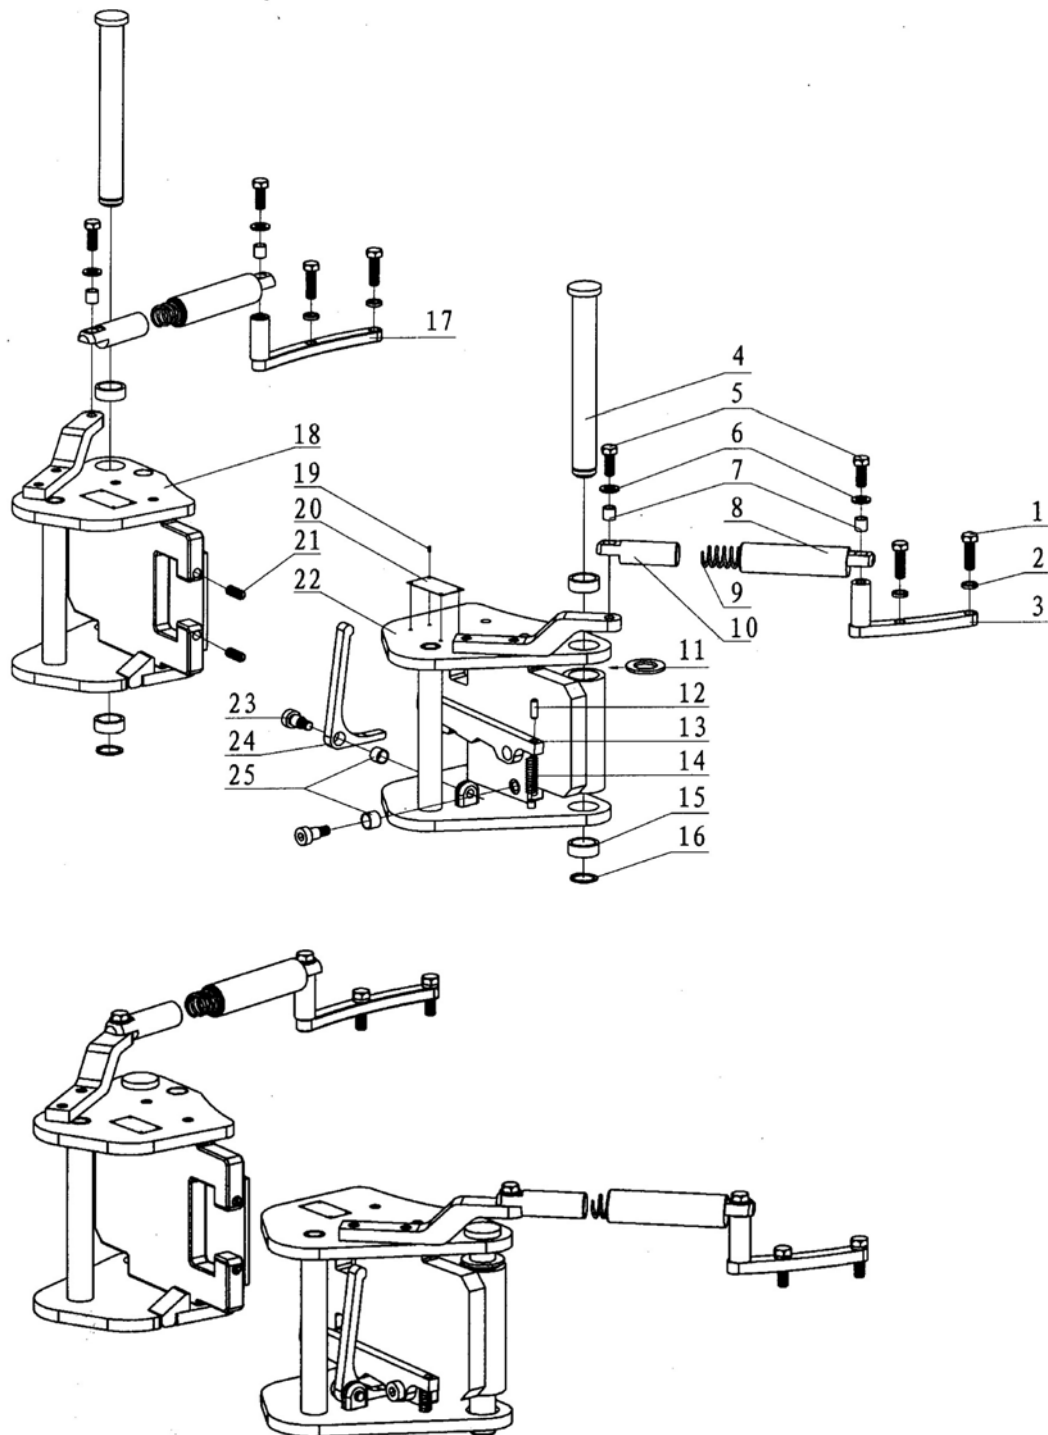

Fig 10
7.7. Safety door assembly (Fig10, Table9)